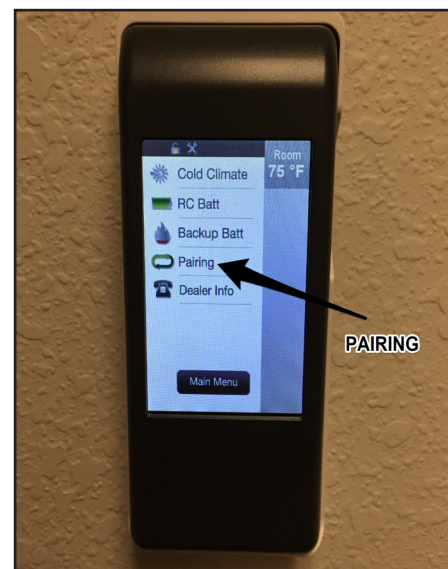

Figure 10 IFT-RC400 Wall Mount / Pairing Screen
While the green LED on the IFT-ECM is blinking, tap anywhere on the gray indicator bar located at the top of the IFT-RC400 screen. Tap on the pairing function as shown in Figure 10. If the IFT-RC400 has been paired successfully to the IFT-ECM, a double audible "beep" will be heard from the IFT-ECM.
4. Touch the screen of the remote. As soon as the main screen appears, tap on the gray indicator bar on the top edge of the screen display. Next, immediately tap the pairing icon as shown in Figure 10. Successful pairing will be indicated by a double beep from the IFT-ECM.
6. As soon as the main screen appears, tap on the gray indicator bar on the top edge of the screen display. Next, immediately tap the pairing icon as shown in Figure 10. Successful pairing will be indicated by a double beep from the IFT-ECM.